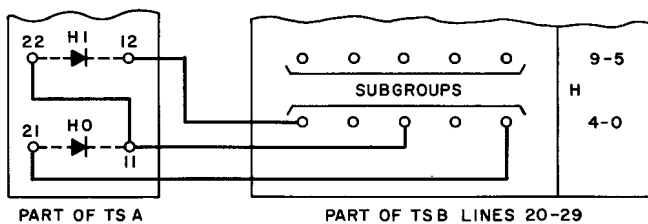

Fig. 8 - One-Way Sequential Hunting Group Consisting of Station Lines 20, 22, and 24
2.10 One-way sequential hunting can be provided only if all the lines to be included are in the same subgroup of 5 lines (0-4 or 5-9) and the hunting sequence conforms with the numerical sequence of the line numbers. For example, as shown in Fig. 8, if line 20 is dialed and found busy, call will be completed to line 22 if idle. If line 22 is busy however, call will be completed to line 24, if idle. If line 22 is dialed and found busy, call will be completed to line 24, if idle. If line 24 is dialed and found busy, call will be routed to busy tone.